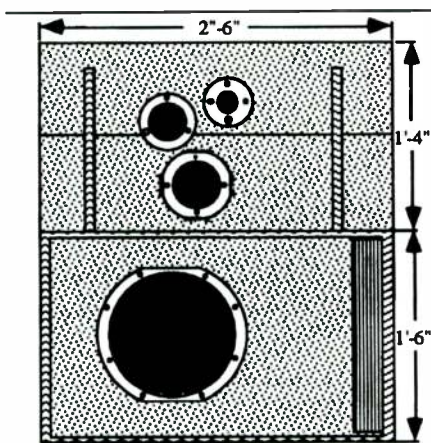

FIGURE 8: Front view showing driver locations.
The length of the duct—approximately 33"—is calculated using equations (3) and (4). To accommodate this length in such a small enclosure, I installed a panel along the wall and back as shown in Fig. 2, and in more detail in Fig. 8.